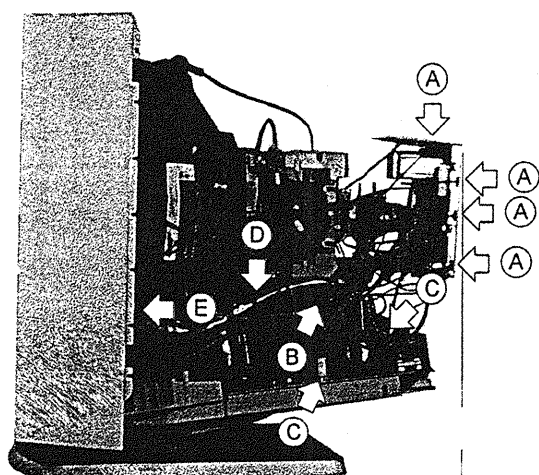

Figure 2-2
1. Disconnect the four ground wires from the neck shield. Refer to the figure 2-2 (A).
2. Disconnect the ground wire. Refer to the figure 2-2 (B).
3. Disconnect the two connected pins from the main board. Refer to the figure 2-2 (C).
4. Release the cable wire from the heat-sink. Refer to the figure 2-2 (D).
5. Cut the cable tie. Refer to the figure 2-2 (E).